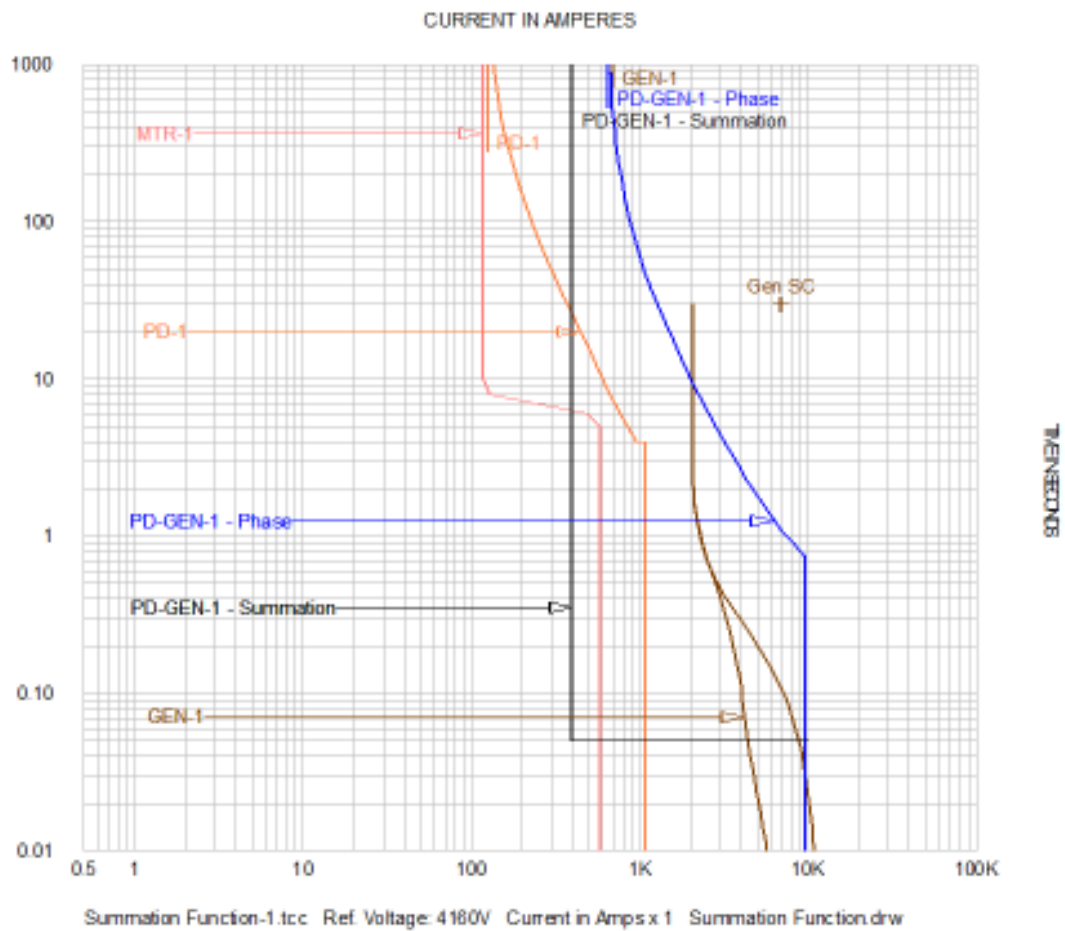

Figure 9
- Note that the function names (Phase or Summation) are now added at the end of the PD-GEN-1 device name (Figure 9).